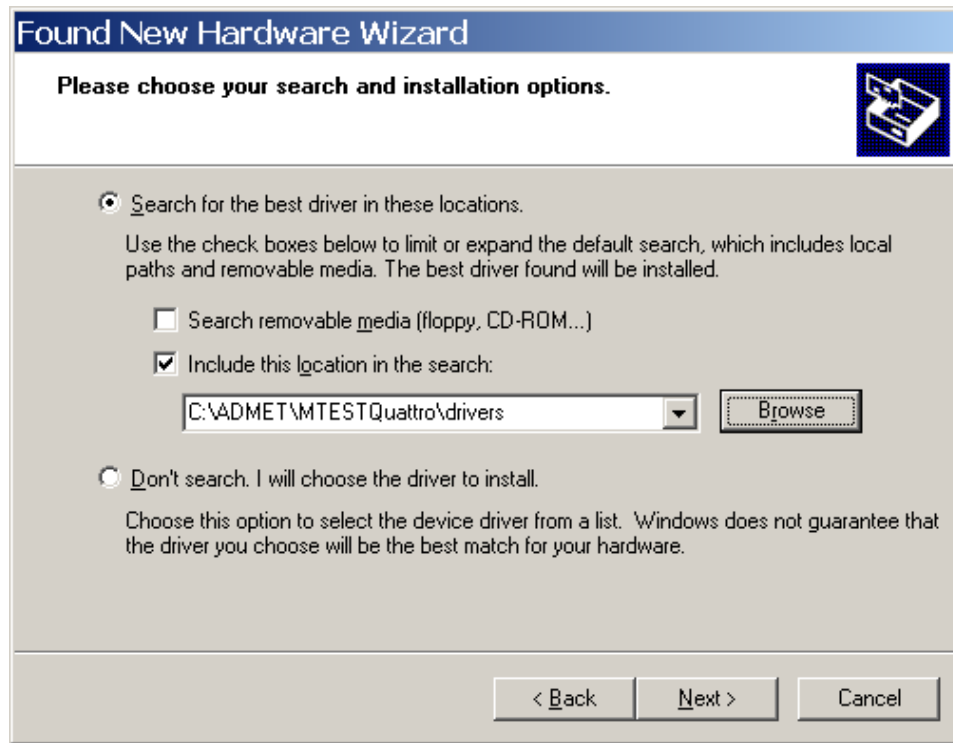

Figure 5: Found New Hardware Wizard
2.3.5 With the appropriate driver location selected, click on the Next button to start the driver search and install (Figure 5: Found New Hardware Wizard).